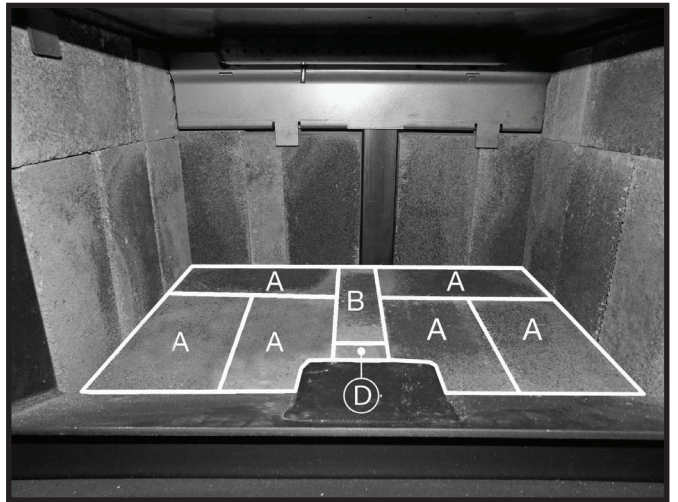

Figure 25: Final right side A bricks and D brick in place.
7. Finish by placing two "A" bricks on the right hand side of the firebox floor followed by the "D" brick placed in the center of the firebox in front of the "B" brick (Figure 25).